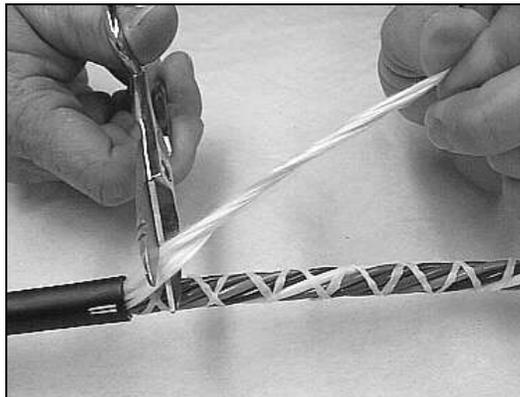

Figure 19 - Cut and remove the dielectric strength elements.
6.8 Separate and cut the dielectric strength elements. Be careful not to cut the ripcords (Figure 19).